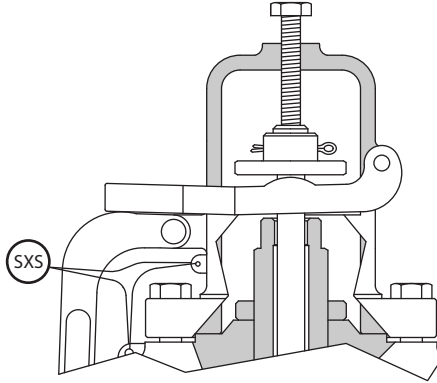

Fig. 13
- Every safety valve that operates with steam, compressed air and water with a temperature greater than 60°C must have a manual override device (test lever), in accordance with ASME Section I PG-73.2.4 and ASME Section VIII UG-136(a)(3). For test lever actuation, the system pressure must be at least 75% of the opening pressure (4.06) of the valve. Under flow conditions, the disc(09) must be lifted completely from its seat so dirt, sediment and solid particles are not trapped on the sealing surfaces. To allow the valve to close, release the lever completely.
- When hydrostatic tests are required after the Safety Valves have been installed, they must be removed and replaced with a blind plug or flange. If it is not possible to remove them, the test lock (GAG) should be used (Figure 13).